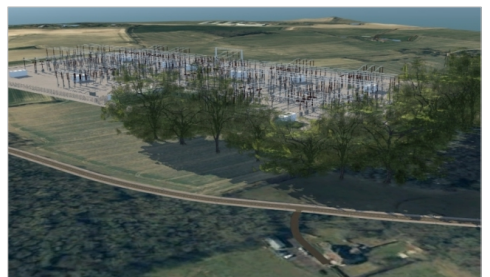

Figure 5: Project Visualization with Impact to the Local Community
- Figure 5 is an example of a project visualization that would be used to discuss with the local community showing the visual impact on the surrounding areas.